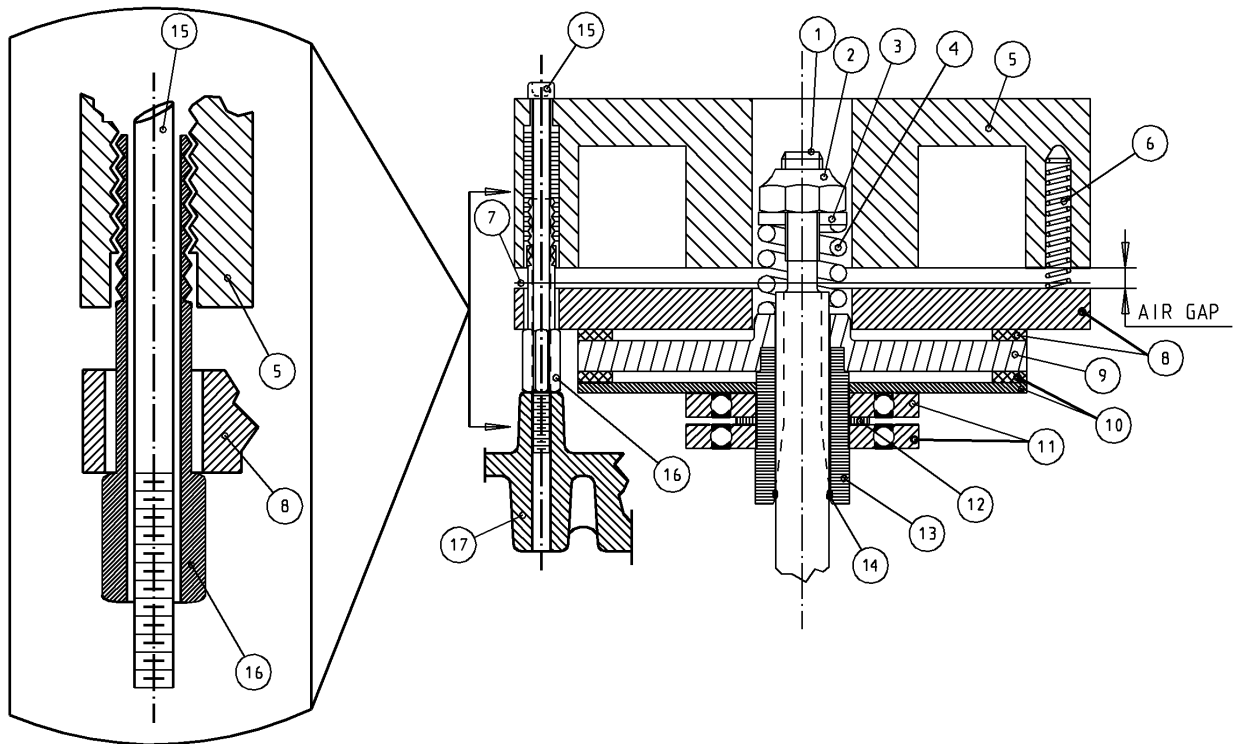

Figure 5.2
SEE FIGURE 5.2
4. Insert a socket (13mm) through inspection hole, and slide it over nut (item 2 - Figure 5.2).
5.3.3 Hoist Motor Brake Adjustment (See Figure 5.2)